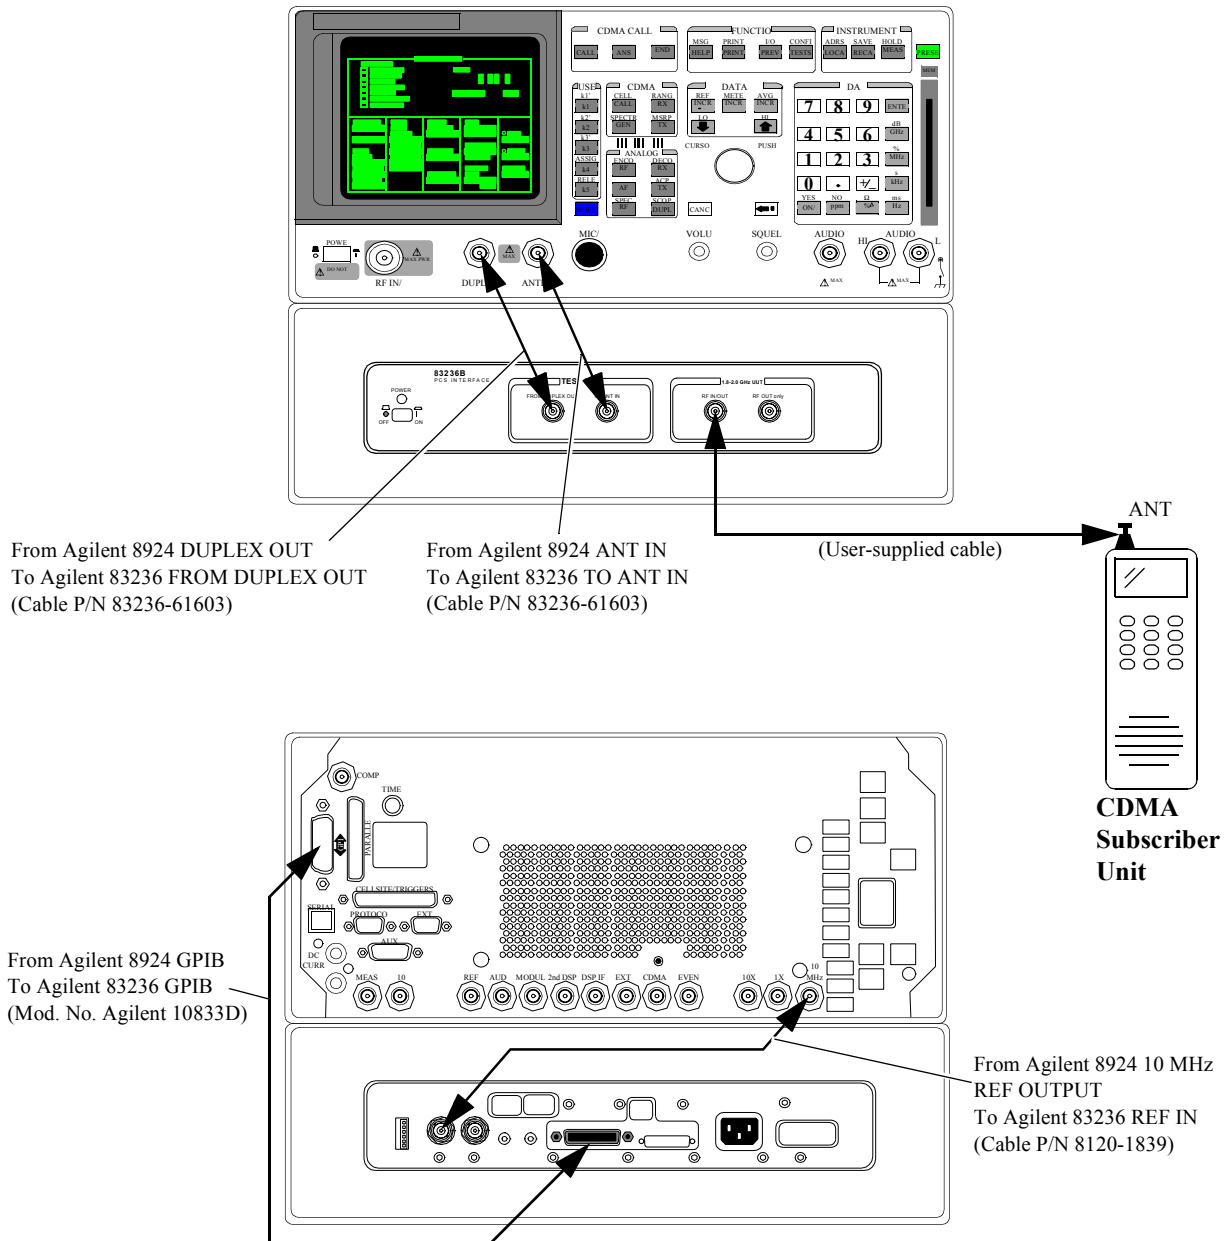

Figure 6 Connection diagrams for the Agilent 8924 Test Configuration (CDMA Subscriber Unit Tests; GPIB Control)
- 2 Make the front and rear panel connections shown in figure 6.